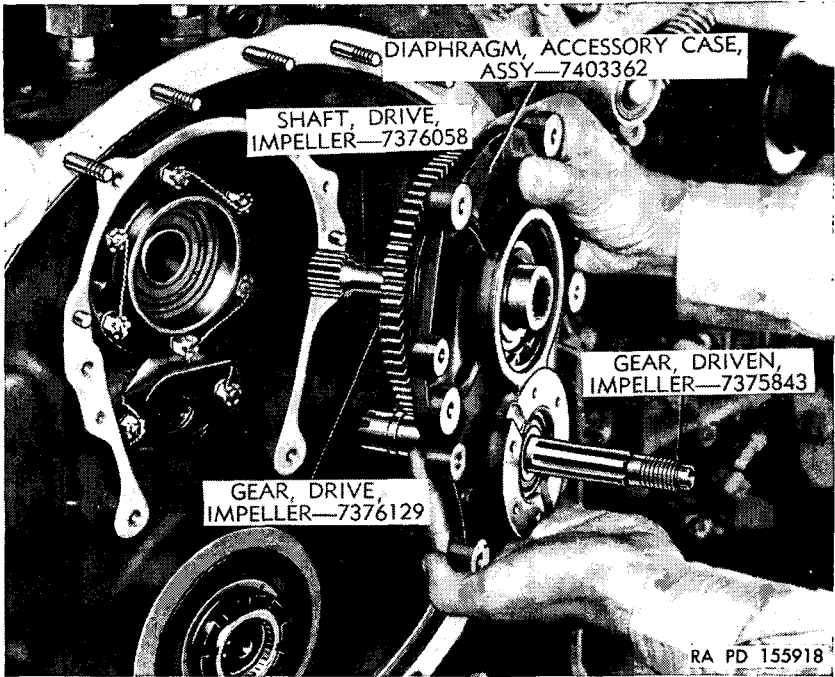

Figure 48. Installing accessory case diaphragm assembly.
- (14) Install the accessory case diaphragm assembly (fig. 48), meshing the impeller driven gear (HH, fig. 38) with the impeller drive gear (P), and tap the diaphragm assembly on the dowels. Secure with six plain washers (F), drilled-hex-head bolts (E), and safety wire.